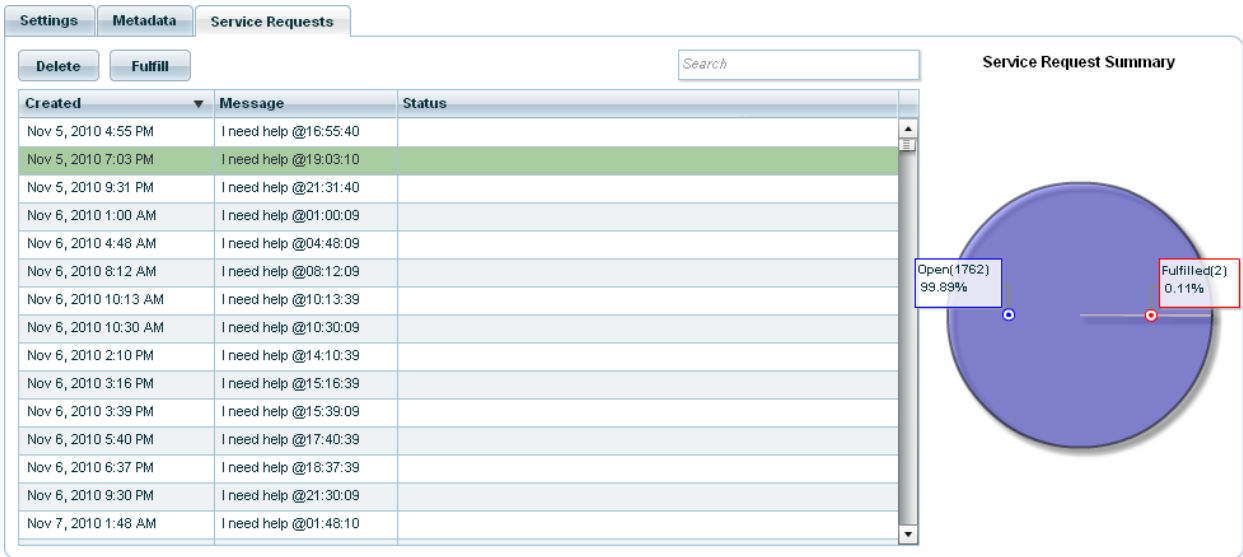

FIG. 202 Location Properties page - Service Requests tab
1. With a Location selected in the table, click the **Edit** button to open the *Location Properties* page, and click on the **Service Requests** tab (FIG. 202).
1. With a Location selected in the table, click the **Edit** button to open the *Location Properties* page, and click on the **Service Requests** tab (see FIG. 202 on page 121).